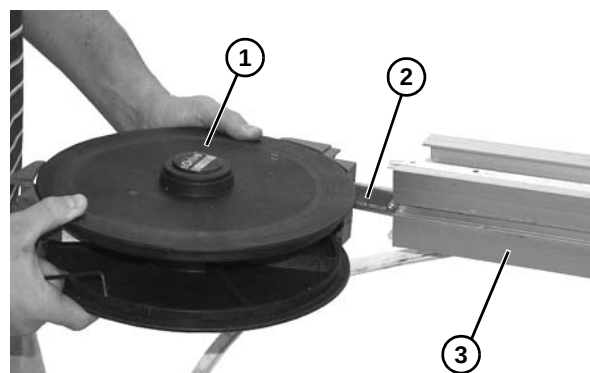
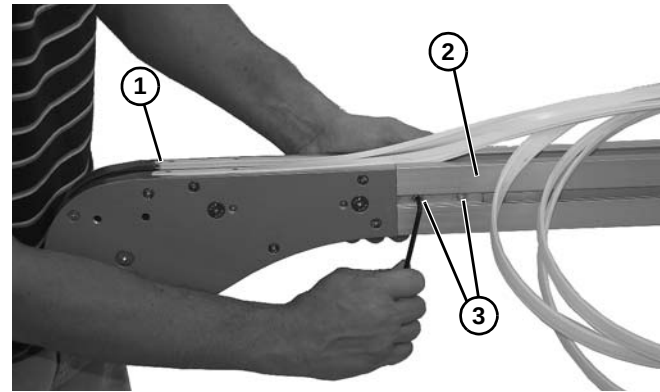

Figure 9
Figure 13
2. Install curve assembly (**Figure 9, item 1**) clamp plates (**Figure 9, item 2**) into one conveyor section (**Figure 9, item 3**) by lining up clamp plate with slot in conveyor frame.
- Install tail assembly (**Figure 13, item 1**) clamp plate into conveyor frame section (**Figure 9, item 2**) by lining up clamp plate with slot in conveyor frame.
- Secure with two set screws (**Figure 13, item 3**). Tighten all set screws 1/4 turn past contact with frame.